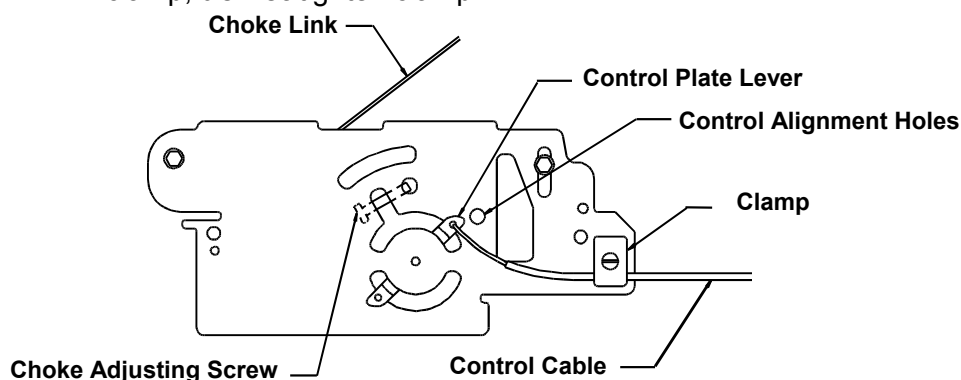

FIGURE 3
- Loosen clamp on engine control plate (See Figure 3). Attach inner wire of the throttle cable to the control plate lever and position cable under cable clamp, **do not** tighten clamp.